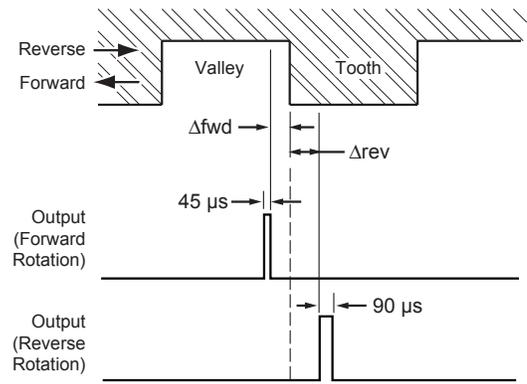

Figure 2. Output pulse timing
**Timing.** As shown in figure 2, the pulse appears at the output pin slightly before the sensed mechanical edge traverses the sensor. For targets in forward rotation, this shift,  $\Delta_{\text{fwd}}$ , results in the pulse corresponding to the valley with the sensed mechanical edge, and for targets in reverse rotation, the shift,  $\Delta_{\text{rev}}$ , results in the pulse corresponding to the tooth with the sensed edge. The sensed mechanical edge that stimulates output pulses is kept the same for both forward and reverse rotation by using only channel A for switching.